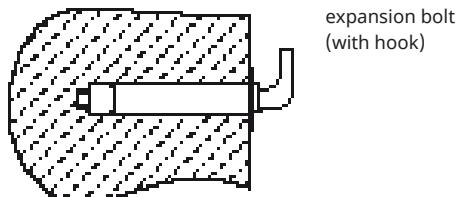

Fig. 2
- After selecting a proper location, determine the positions of the two holes used for expansion bolts with hook. Make two holes in the wall with the corresponding depth and size matching the expansion bolts attached with the heater insert the screws, turn the hook upwards, tighten the nuts to fix firmly, and then hang the electric water heater on it (see Fig. 2).